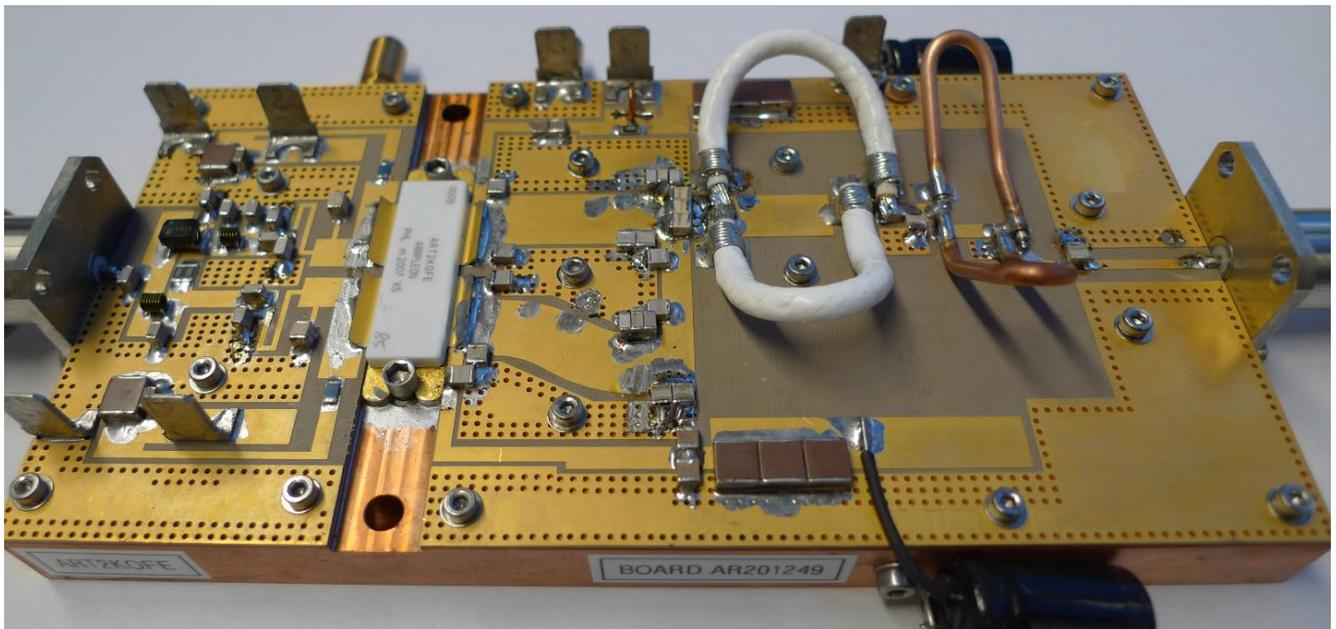

Figure 1 AR201249, 165-235Mhz demo board
- Figure 1 AR201249, 165-235Mhz demo board 4